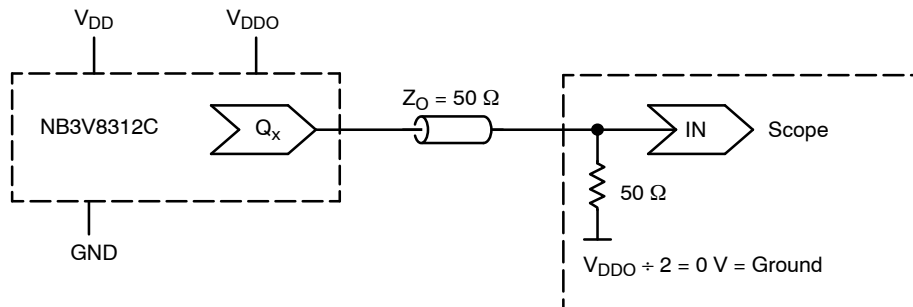

Figure 7. Typical Device Evaluation and Termination Setup – See Table 8
6. Outputs terminated  $50\ \Omega$  to  $V_{DDO}/2$  unless otherwise specified. See Figure 7.
7. Outputs loaded with  $50\ \Omega$  to  $V_{DDO}/2$ ; see Figure 7. CLOCK input with 50% duty cycle; minimum input amplitude = 1.2 V at  $V_{DD} = 3.3\text{ V}$ , 1.0 V at  $V_{DD} = 2.5\text{ V}$ ,  $V_{DD}/2$  at  $V_{DD} = 1.8\text{ V}$ .
7. Outputs loaded with  $50 \Omega$  to  $V_{DDO}/2$ ; see Figure 7. CLOCK input with 50% duty cycle; minimum input amplitude = 1.2 V at  $V_{DD} = 3.3$  V, 1.0 V at  $V_{DD} = 2.5$  V,  $V_{DD}/2$  at  $V_{DD} = 1.8$  V.